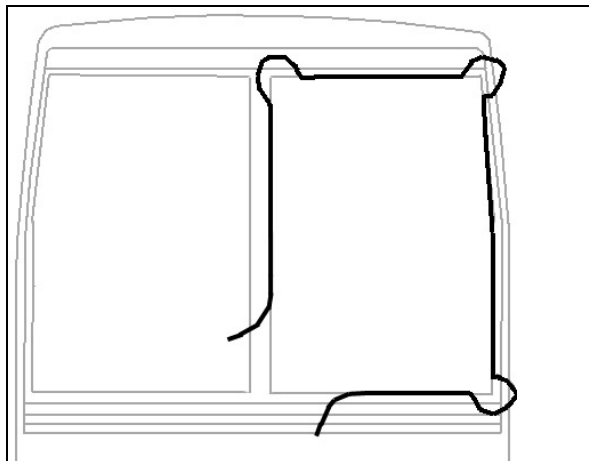

FIGURE 18: WINDSHIELD INSTALLATION USING ROPE
- Insert rope into rubber extrusion leaving enough length at each corner to make a loop. Spray soapy water onto rope and rubber extrusion (Figure 18).